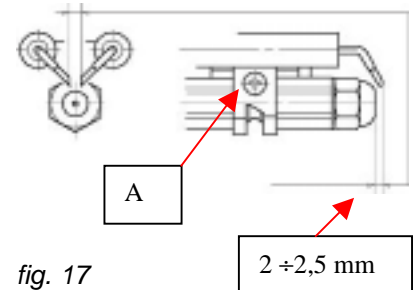

fig. 17
- Unscrew the screw **A** (fig. 17) and remove the electrodes.
If the burner is to work correctly, it is important to keep to the distances between the electrodes and between the nozzles and electrodes (fig. 17).